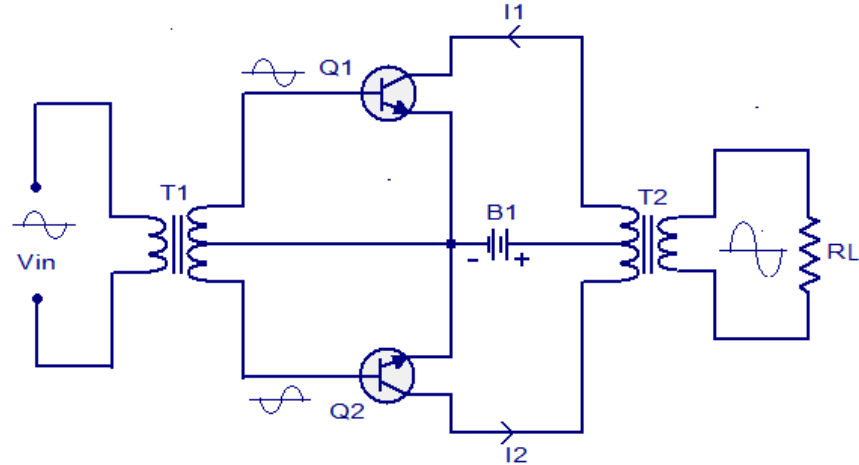

Fig. 2: Class B push pull amplifier
8. Repeat the same for fig 2. Note the cross over distortion in output.